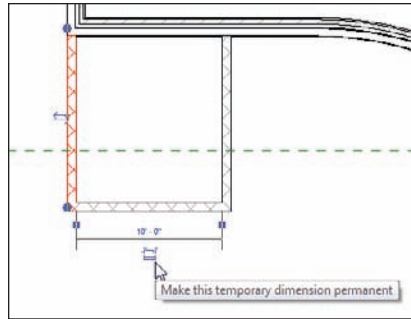

FIGURE 2.27 You can make temporary dimensions permanent.
6. Underneath the dimension, you will see a small blue icon that also looks like a dimension. If you hover your mouse over it, a tooltip will appear indicating that you can make the temporary dimension permanent, as shown in Figure 2.27. When you see this tooltip, click the icon.